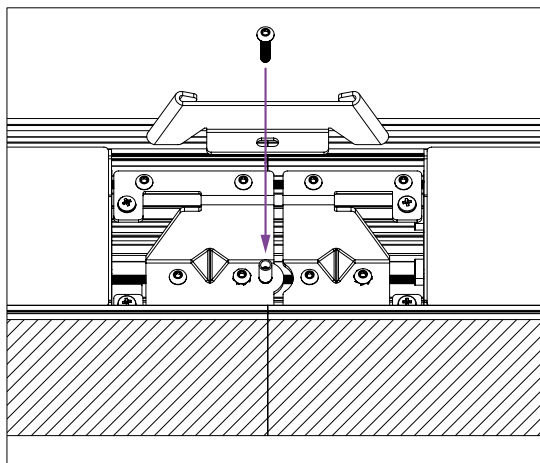
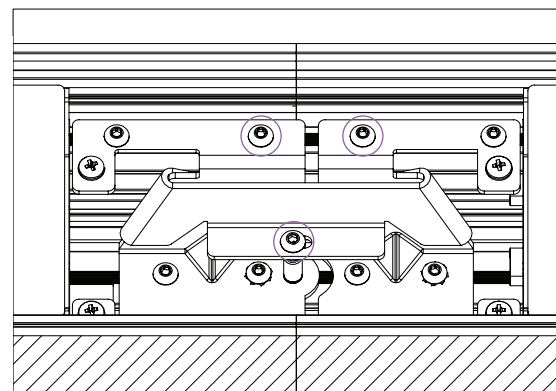

fig. 14
fig. 15
2. Secure the joints using the provided wedge brackets. Slide the wedge brackets onto the ramps (see fig. 14). Then, use a #1 Phillips drive with the provided M3 screws to secure the wedge brackets (see fig. 15).